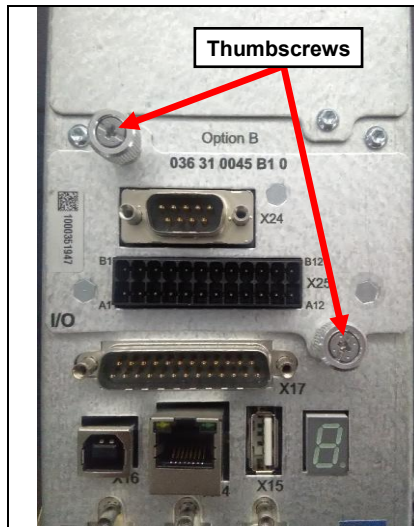

Figure 5-27
- Step 11. Remove the I/O Modules from both old and new drives. Loosen the thumbscrews (if needed, use a #1 Philips) and carefully lift the I/O Module up off the servo unit. (See Figures 5-27)